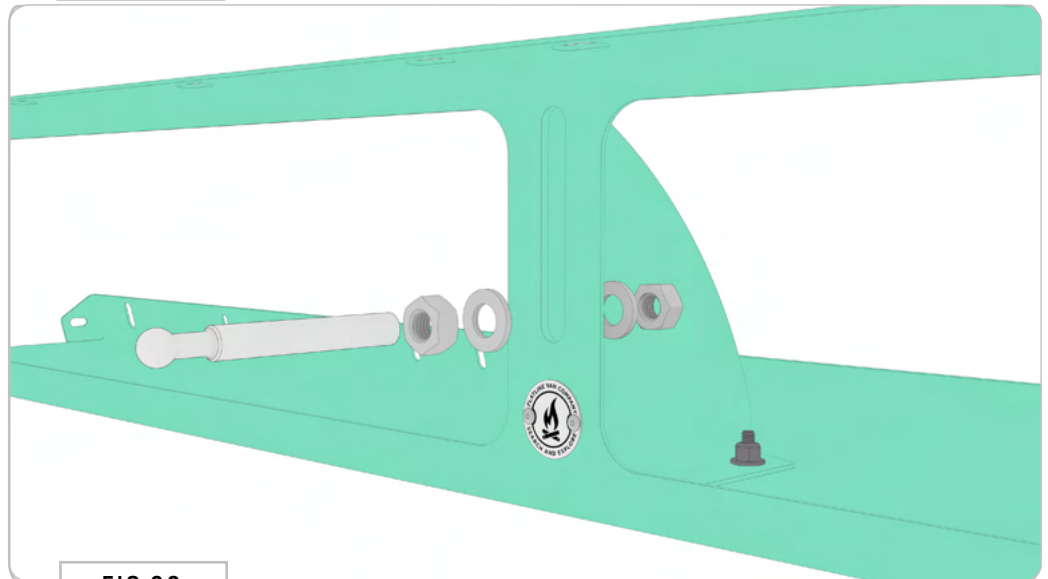

FIG 60
**4.1 Assemble Overhead Shelf:** Loosely install 12mm Ball Stud to the Overhead Shelf in the location shown using (2) M12 Nuts and Flat Washers (FIG 60).